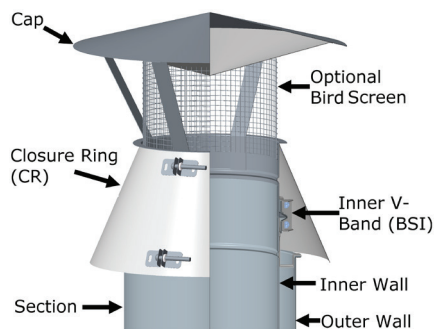

Figure 68 - Rain Cap (RC) installed
The Rain Cap combine partial protection against rain entry with low exit flow (resistance is roughly 0.5 velocity heads). It is mounted to the end of a standard pipe section by use of the standard Inner V-Band (BSI). See Step 1 to 4 in the **JOINT ASSEMBLY Section**. It is a single wall assembly (for all Models SCL, CAX1, CIX1, CIX2 and CIX4), but a Closure Ring (CR) is provided as part of the Rain Cap so that the insulating space is protected through the upper end of the chimney. The CR must be seal to the inner wall with outer Sealant **S-375**. See **Figure 68**.